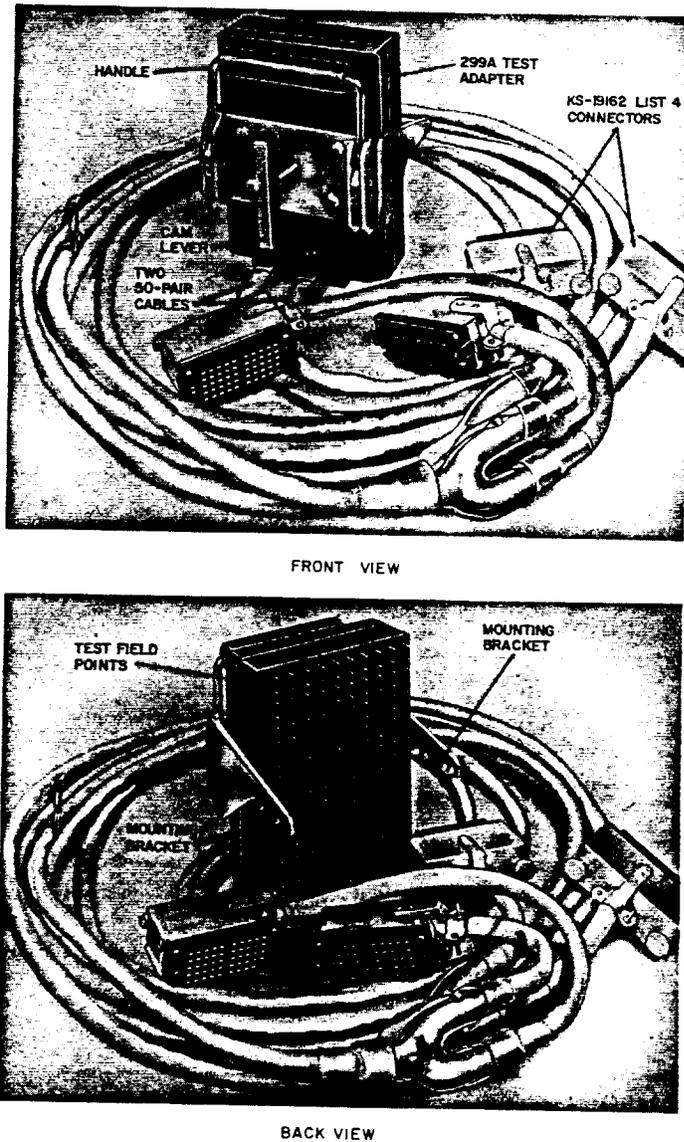

Figure 40. 299A Test Adapter
9.05 The 299A and 299B test adapters (Figures 40 and 41) are used in testing the 307-type connector. The 299A test adapter provides testing with or without the 3C- or 4C-type protector units. The 299B provides testing with the protector units in the service position or in the detent position. See AT&T 201-208-106 for description and use.